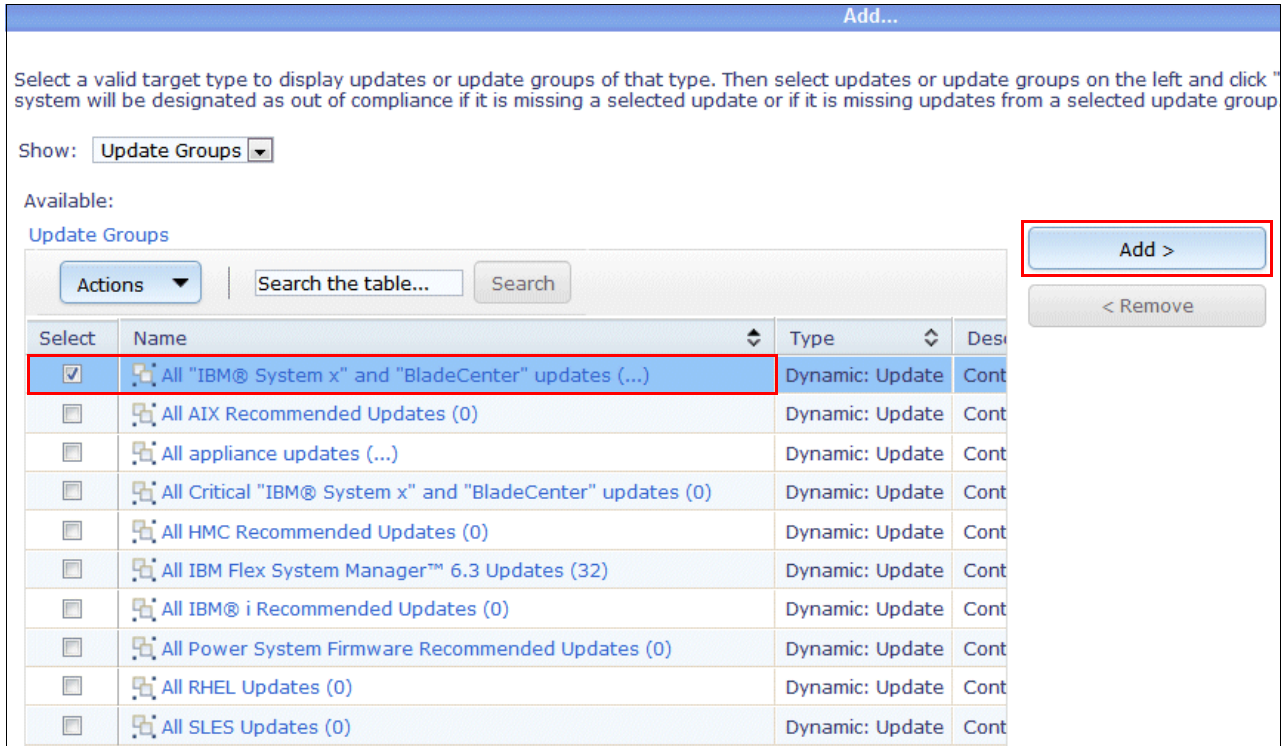

Figure 6-106 Policy Group
- In this example, select **All IBM System x and BladeCenter updates** and click **Add** as shown in Figure 6-106.